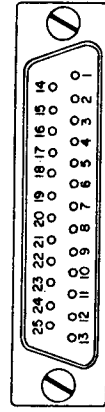

FIGURE 2-7. BCD OUTPUT OPTION PIN ASSIGNMENTS
2.4.4 BCD Output Connections. All BCD Output option lines are LSTTL/CMOS compatible. These lines are provided by the PCB's connector receptacle which mates to a male 25-pin "D" type connector (supplied). All output lines (except DATA VALID) are tri-state controlled. Pin assignments of the BCD Output option are shown in Figure 2-7. The following summarizes operation of the BCD lines.